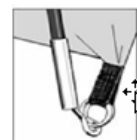

Figure 1.
- Locate one end of pole onto the corresponding metal pin (figure 1)